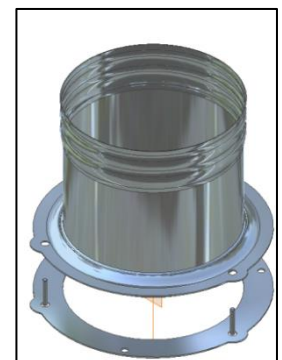

Figure 3-8: 6CON Liner Connector
The Astra 24 fireplace can be connected to a masonry chimney that complies with current national and municipal building codes. A 6 inch chimney liner that complies with ULC S635 M2000 (Canada) or UL 1777 (US) standards must be installed within the existing masonry chimney. Note that the 6CON connector (manufactured by SUPREME FIREPLACES INC.) must be installed to connect the prefabricated chimney to the liner (6CON sold separately), unless otherwise specified by the manufacturer of the prefabricated chimney being used. Refer to Figure 3-8.